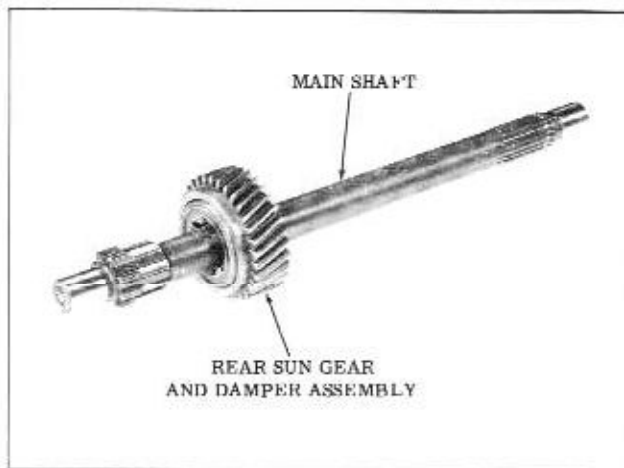

Fig. 3-46 Rear Sun Gear
43. Remove the rear sun gear from the main shaft. (Fig. 3-46)